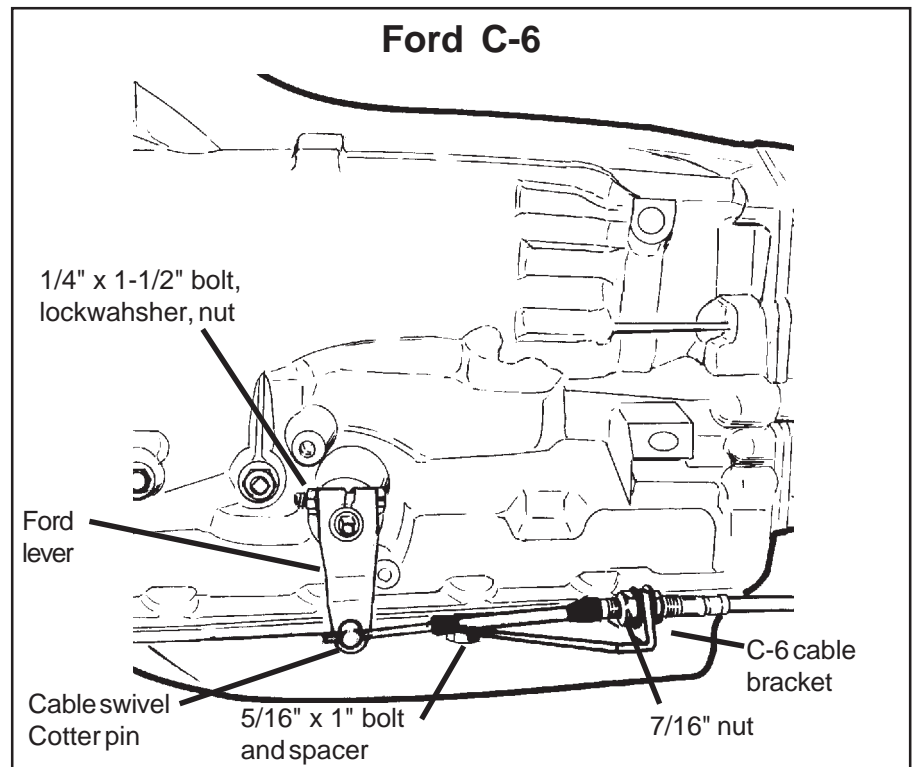

Figure 8
you will have to remove the lower part of the stock arm by cutting it off to clear the **B&M** lever, (See **figure 8**). Install **B&M** selector lever onto shift shaft of transmission. Align selector lever so when it points straight down it travels equal arcs in both directions from center, then tighten 1/4"-20 x 1 1/2" pinch bolt and nut. The lever should travel smoothly from front to back with a positive click in each gear position. Make sure O-ring is in position on downshift shaft and install downshift lever in position on shaft. Install lockwasher and nut and tighten securely. Downshift lever must operate smoothly. Reconnect downshift linkage.
**C-6:** Remove the two transmission oil pan bolts from the left rear corner of the oil pan. Install cable bracket in position, (See **figure 8**) with two spacers between the pan and bracket. (If your transmission is equipped with a cast aluminum oil pan, these spacers can be omitted.) Install the two 5/16-18 x 1.00" bolts supplied and tighten 12-13 ft. lbs. Do not overtighten as this can damage pan gasket.